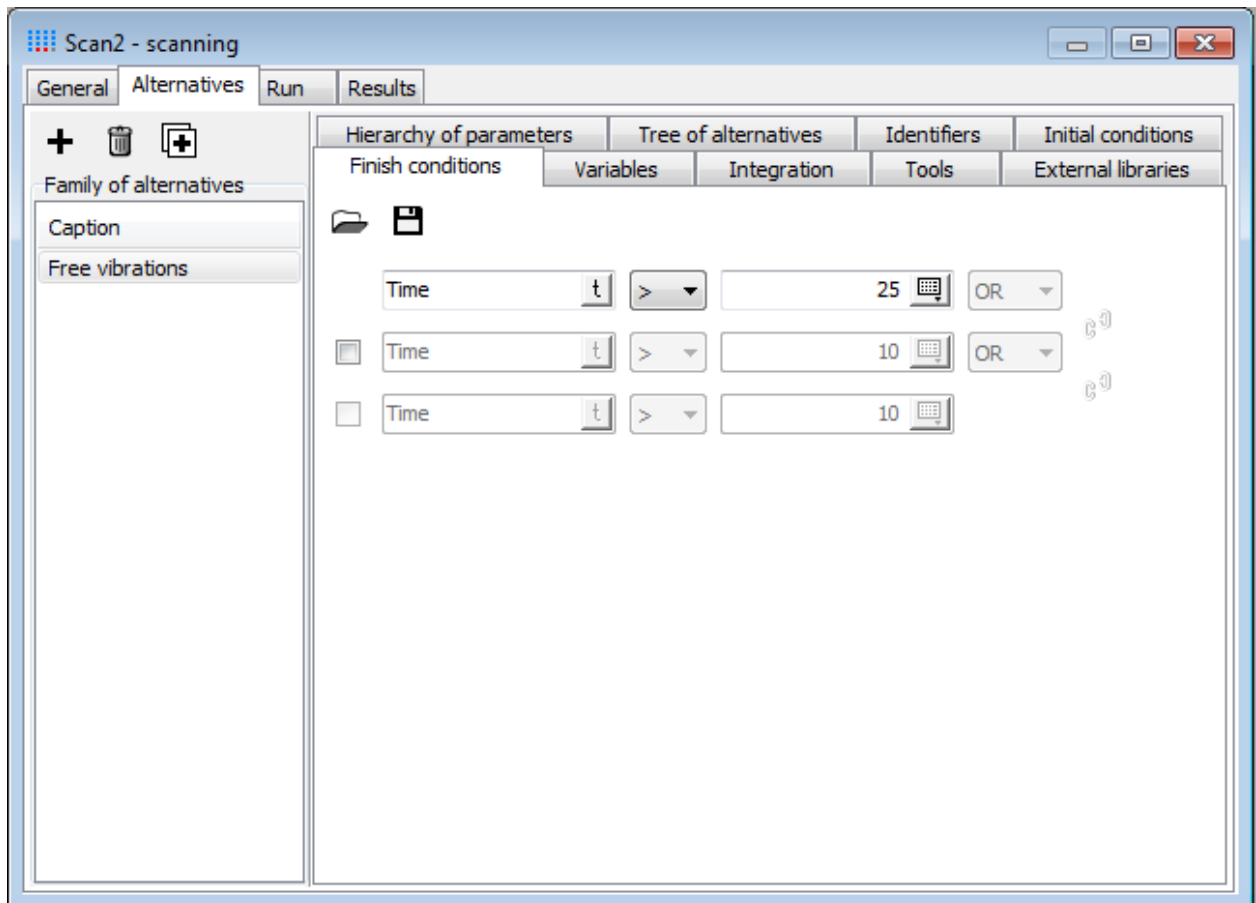

Figure 2.8. Finish conditions
Here you can describe finish conditions for each numerical experiment in the current family (see Figure 2.8). Finish conditions are formulated in the following way: “Interrupt a numerical experiment if at least one of the conditions is satisfied”. Using scanning project you can set finish condition as
1. Set simulation time to **25** seconds, see Figure 2.8.